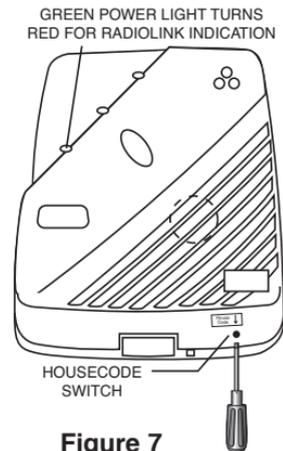

Figure 7
1. Press and hold the House Code switch on the bottom of the cover with a small screwdriver until the green power light turns red (see figure 7).